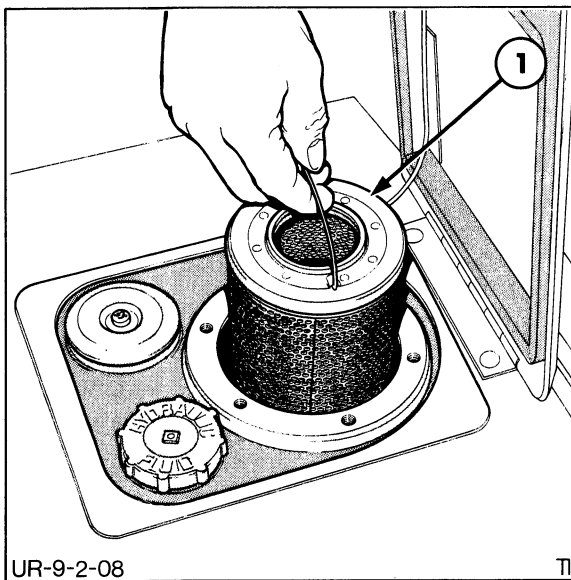

FIGURE 8-108
4. Remove and discard the filter element from the reservoir assembly, Figure 8-108.